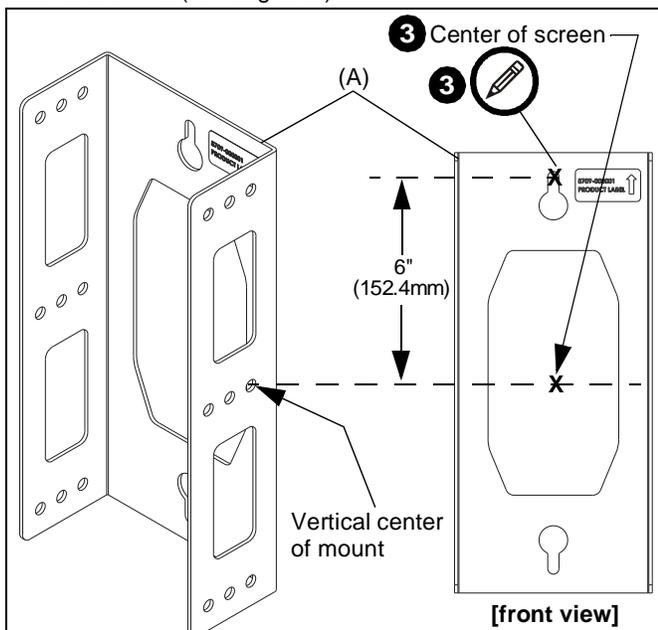

Figure 1
3. Measure up 6" (152.4 mm) from the center of screen mark and mark location of the wall plate (A) upper mounting slot on the stud. (See Figure 1)